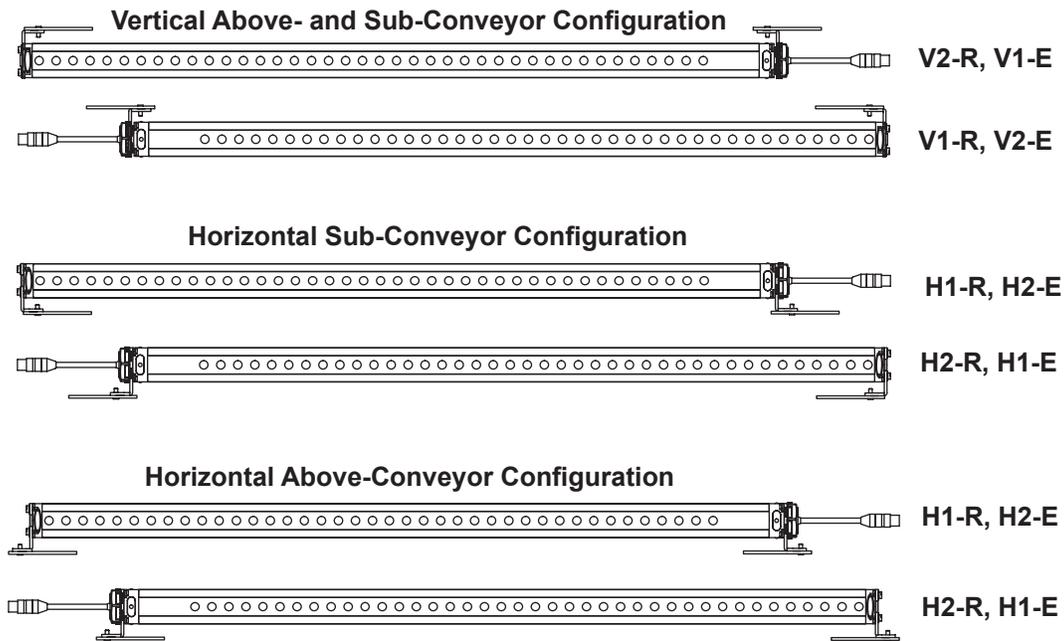

Figure 15 Beam Array Bracket Orientation
9. Attach the mounting brackets to the beam arrays and orient according to Figure 15. Position brackets for receivers and emitters 180 degrees apart in a parallel orientation to allow for proper alignment.